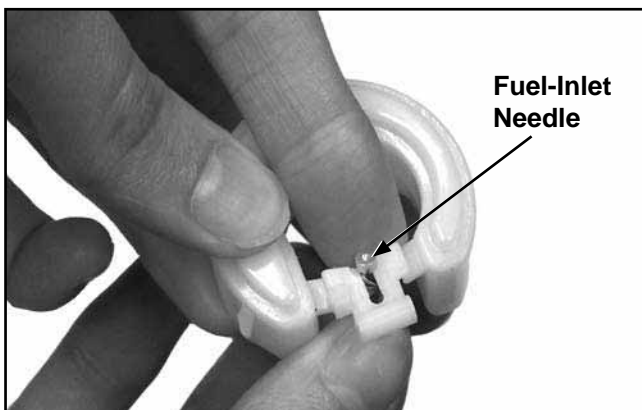

Figure 5-8. Fuel Inlet Needle Removal.
2. Slide the spring-loaded fuel inlet needle out of the float. See Figure 5-8.